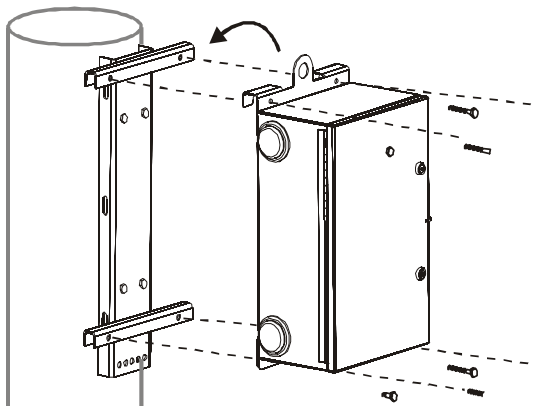

Figure 4.2 ARU Mounting
2. If necessary use a rope attached to the ARU eye bolt to lift and hold it while fastening it to the mounting bracket with the provided 4 bolts, nuts and washers as shown in Figure 4.2.